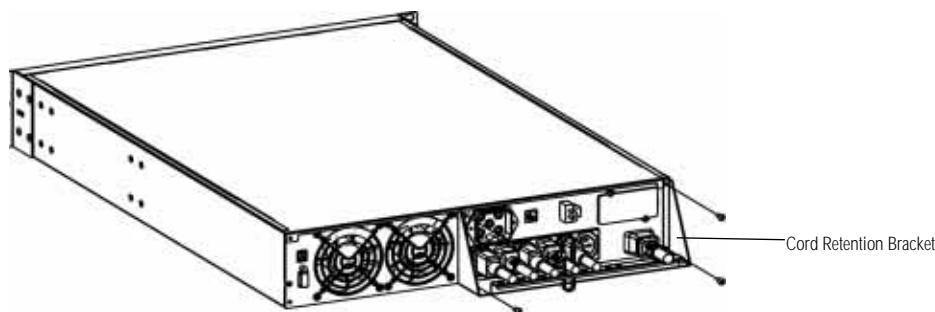

Fig. 7: Cord Retention Bracket
3. If using a UPS with IEC receptacles and inlets, cords may be secured by using the cord retainer and supplied tie wraps, see Figure 7.